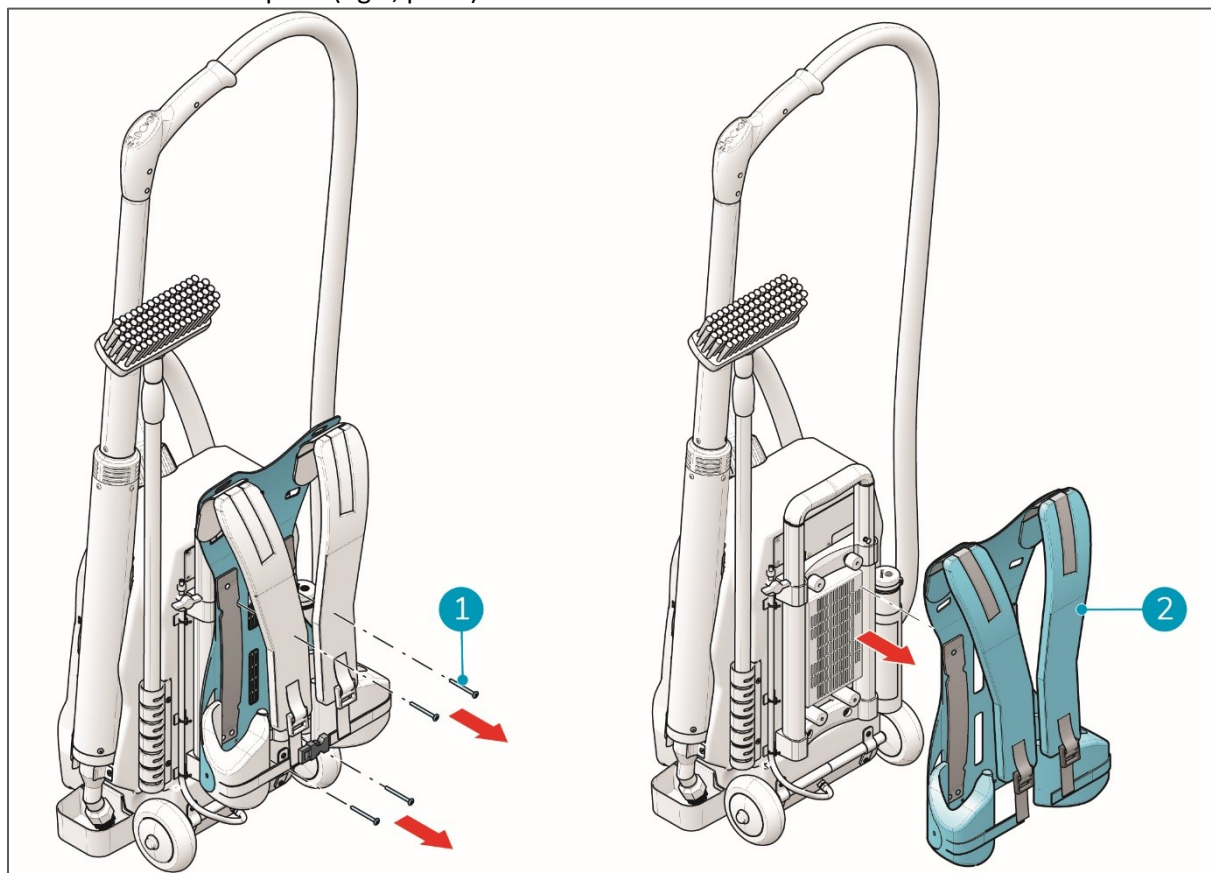

Figure 9
2. Unscrew the four screws (fig 9, pos 1) using a Philips screwdriver.
3. Remove the back plate (fig 9, pos 2).